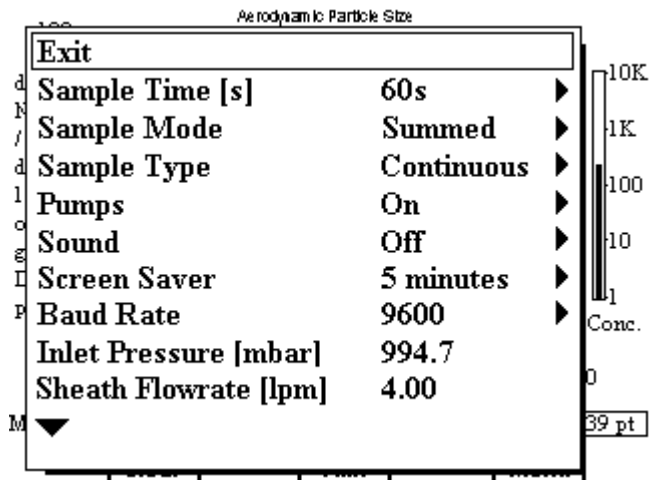

Figure 4-1
1. Turn the control knob clockwise until the cursor runs off the right side of the display and the CLEAR, START, and MENU buttons appear. Continue turning the control knob until Menu button is highlighted; then press the control knob. The menu shown in Figure 4-1 appears.